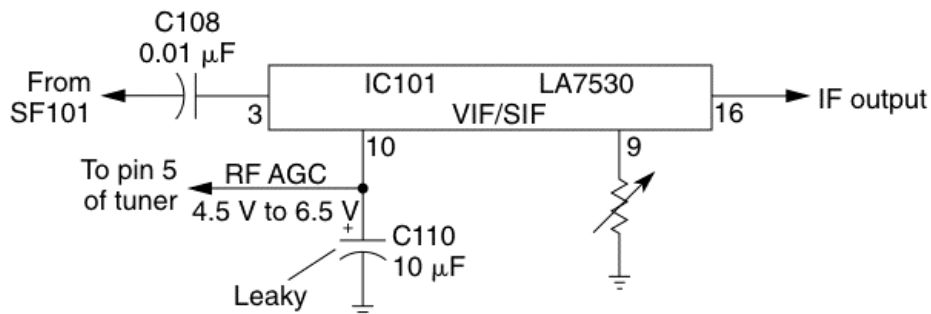

FIGURE 9-32 Defective capacitor C110 caused a lack of channel tuning in an Emerson EC10 chassis.
11.3 volts. When the RF pin 5 was checked, no voltage was found on this RF AGC terminal. At first, IC101 was suspected, but all voltages were normal. Finally, C110 (10 μ F) was found to be defective and was replaced, which solved the tuning problem (Fig. 9-32).